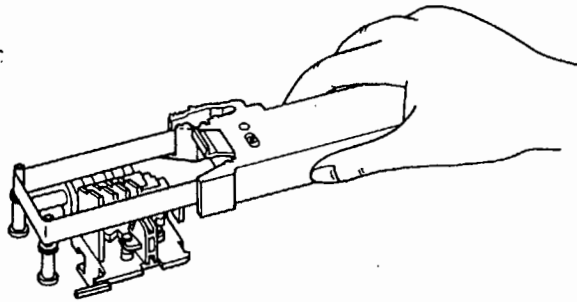

Fig 6.5
- (5) Move the ribbon cassette approx. 20 mm to the right beyond the printer carriage with the ribbon passed through the two guide pins. (Fig. 6.5)